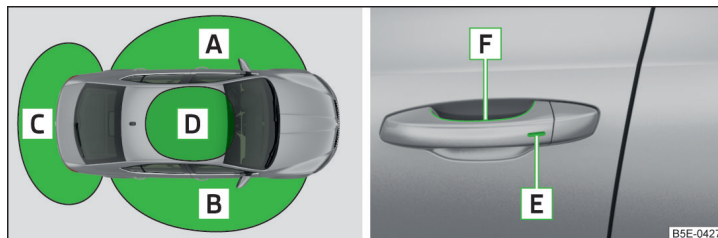

Fig. 34 Name of the zones / sensors in the front door handle
The key must be in one of the areas ,  or  (about 1.5 meters away from the vehicle) » Fig. 34.
Unlocking and locking areas » Fig. 34
➤ Grasp the door handle of the front door or cover the sensor **F** » Fig. 34 with the whole palm of your hand » **I**.
➤ Touch the sensor **E** » Fig. 34 with your fingers » **I**.
➤ Touch the sensor **E** » Fig. 34 twice within 2 seconds with your fingers » **I**.
- The KESSY system can find the valid key, even if it was left in the front of the vehicle's roof for example **D** » Fig. 34. It is therefore not always necessary to know where the key is.
When the vehicle is not unlocked for a long period of time, the grip sensors » Fig. 34 on page 54 are automatically disabled.
- Unlock the driver's door using the sensor **F** » Fig. 34 on page 54.